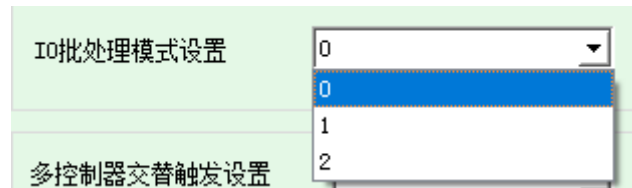

Figure 4-7 Set the working mode of Start_in signal
- To set different modes, please follow the steps: EdgeImaging software ->Real time settings ->Trigger settings ->IO batch processing mode settings, as shown in Figure 4-7 Set the working mode of Start_in signal.